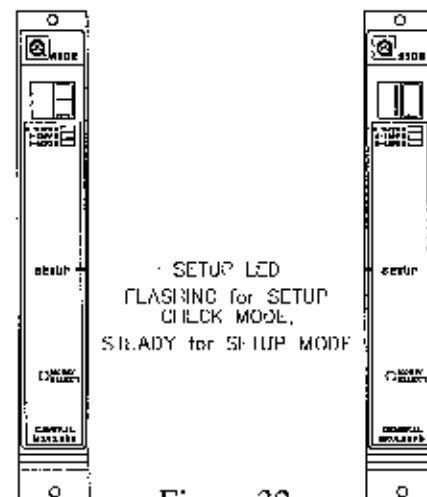
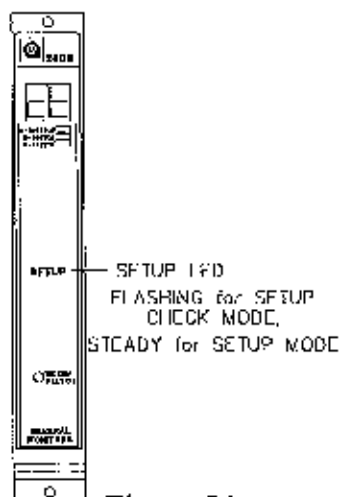

Figure 32
Figure 31
- After the Fault/Inhibit option has been selected, the user will select the ramp time (3 or 10 seconds) and whether or not the alarm outputs will activate during a Card Test. The display will indicate **ct** for about five seconds (figure 31) followed by the ramp up time (**3** or **10**) during the card test (figure 32). Press the Mode/Select switch until the desired option is displayed. **3** is the factory default for this selection.